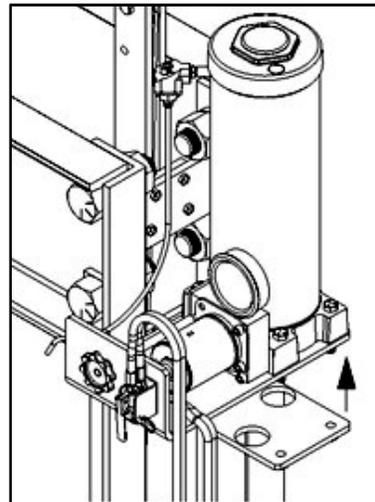

Fig. 6: Moving power unit
14. If you need to turn the power unit the opposite direction. Raise the power unit and rotate it by 180 degrees as shown in Fig. 6.